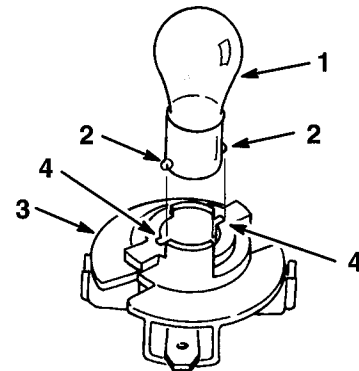

Figure 28
4. Push and rotate the bulb counterclockwise until it stops (approx. 1/4 turn) and remove bulb from the bulb holder (Fig. 28).
1. The bulb has metal pins on the side of its base. Align the pins with the slots in the bulb holder and insert the base into the holder (Fig. 28). Push and rotate the bulb clockwise until it stops.